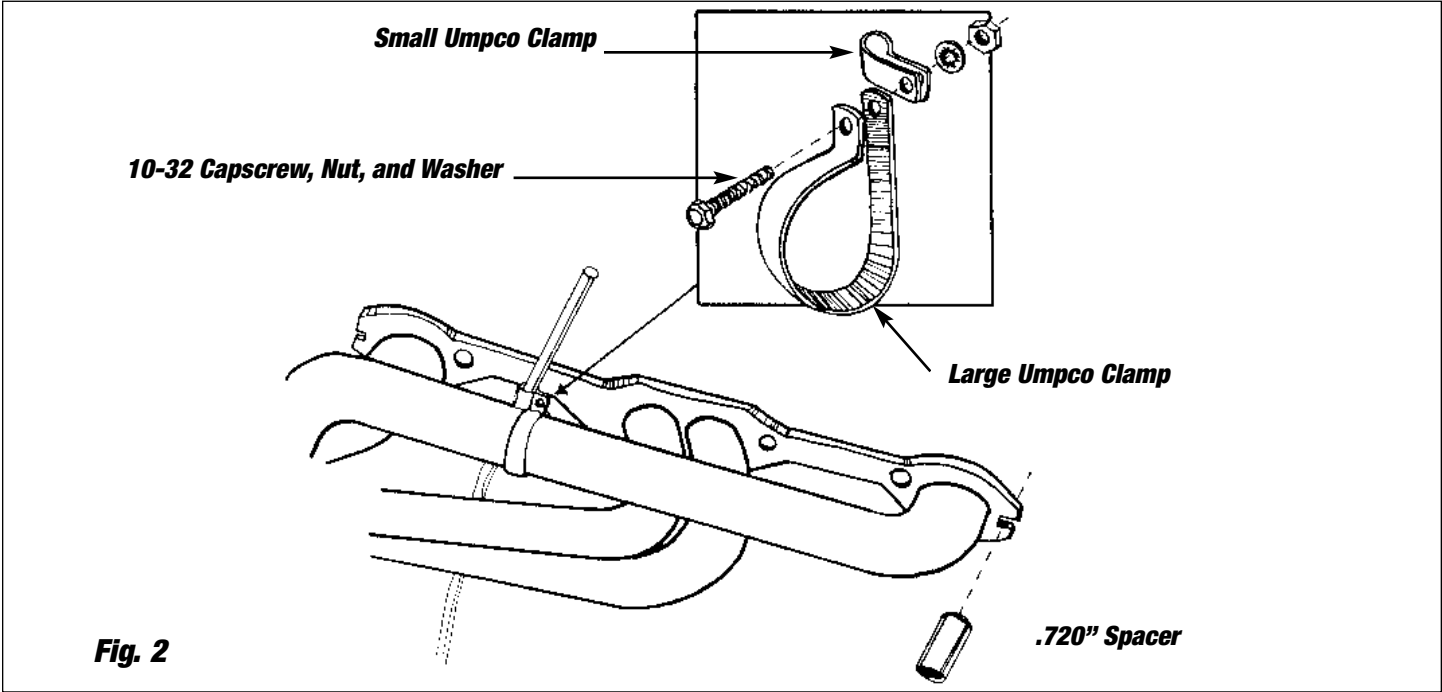

Fig. 2
10. Install remaining bolts, lockwashers, dipstick and tube clamps (**see Figure 2**). Do not tighten bolts at this time.